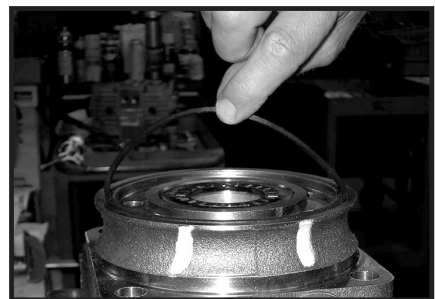

Figure 41
10. Apply a small amount of clean grease to a new seal ring (4) and insert it into the housing (18) seal ring groove. SEE FIGURE 41.